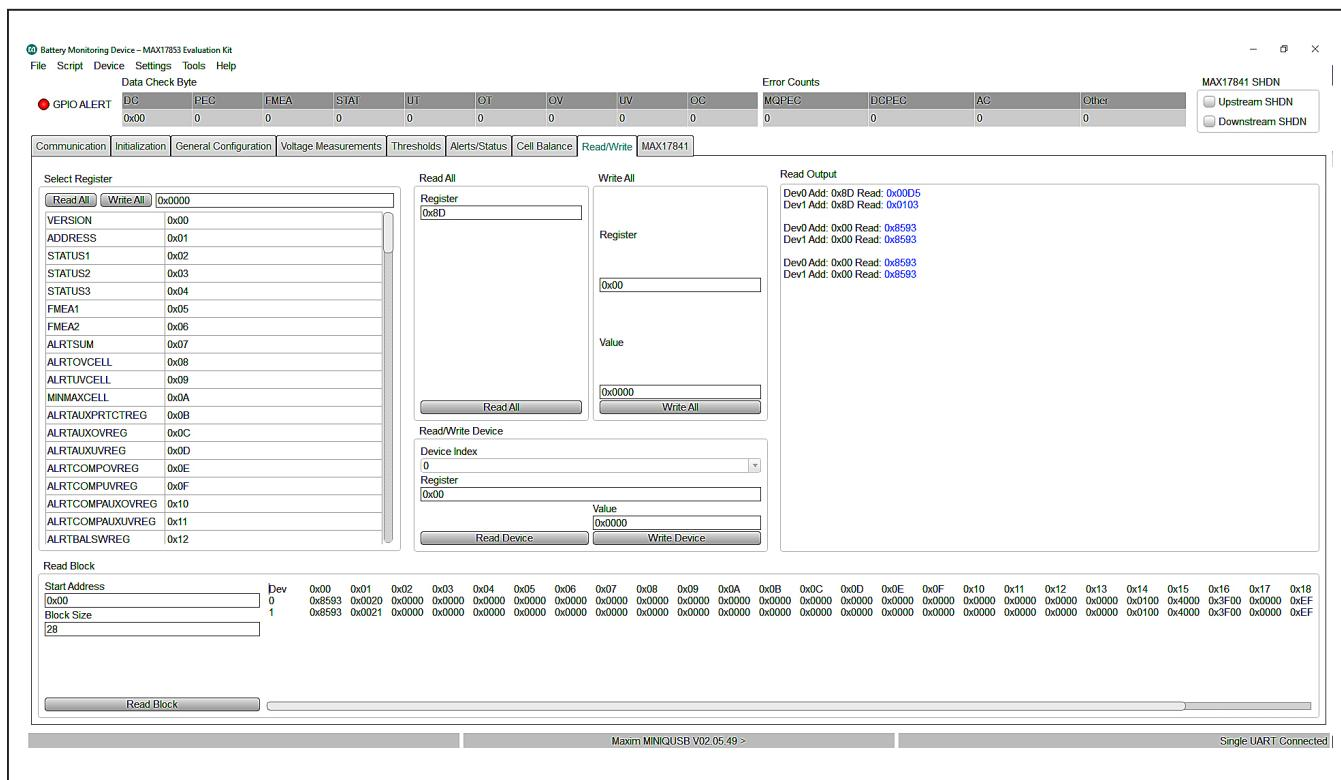

Figure 22. Read/Write Tab
The **Read/Write** tab (Figure 22) provides direct access to the read and write registers of the MAX17852. In the **Read/Write** tab, the GUI offers several read/write options to the user. The **Select Register** group box allows the user to read register contents by highlighting the desired register and clicking the **Read All** button. For example, if the user wants to read the unique ID assigned to each device, scroll down the list and highlight the ID1 (0x8C) register and click the **Read All** button, then highlight the ID2 (0x8D) register and click the **Read All** button. The contents of the registers are then displayed in the **Read Output** group box.
- 6) The EV kit contains a 10kΩ pullup resistor on each of the GP/AUXn pins. To pull up each of the GP/AUXn pins, select the **Read/Write** tab (Figure 22). Using the **Read All** group box, read register 0x62. Set THRM-MODE bit 9 and bit 10 (e.g., if register 0x62 is 0x0000, use the **Write All** box and send 0x0600). Setting the THRM MODE bit activates the THRM pin on the device (pin no. 29). The EV kit terminates THRM to the 10kΩ pullup resistors.